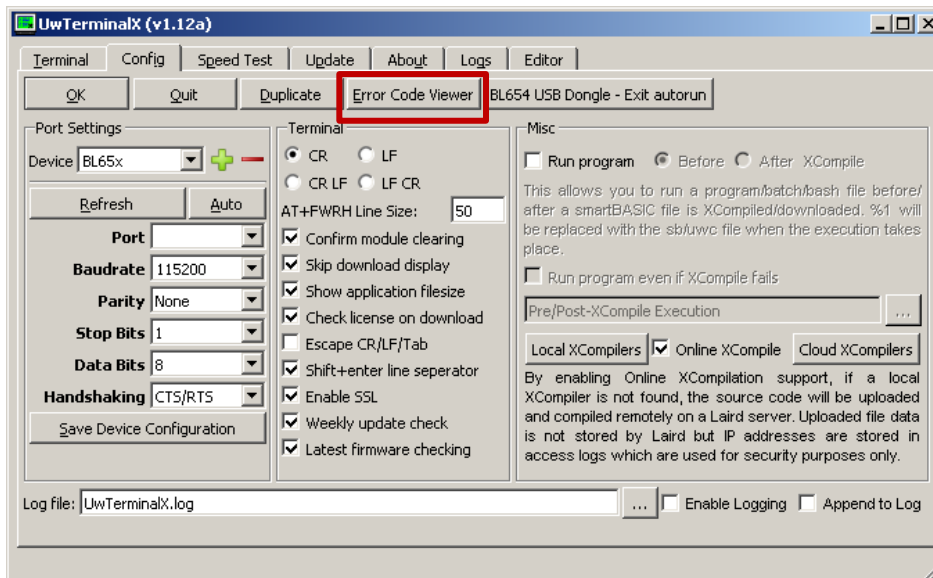

Figure 4: Error Code Viewer
1. From the Config tab, click **Error Code Viewer** (Figure 4).